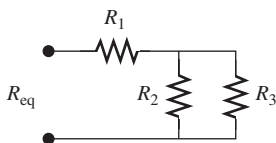

FIGURE P3.6 Circuit for Problem 3.6.
- 3.6 (A)* Find R_2 in Figure P3.6, given $R_{eq} = 17\ \Omega$, $R_1 = 5\ \Omega$, $R_3 = 15\ \Omega$.